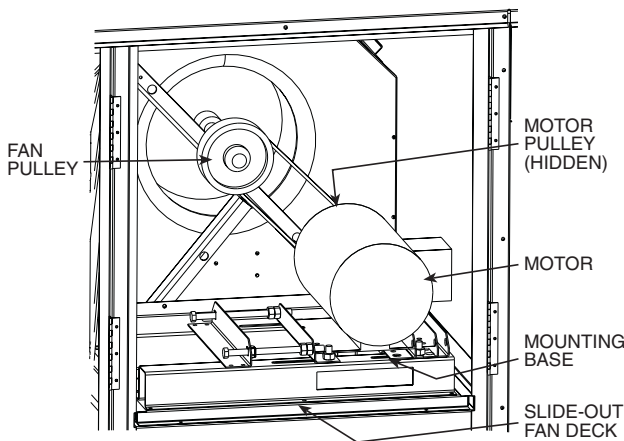

Fig. 22 — Evaporator-Fan Motor Adjustment
3. Remove three no. 10 screws at front of slide-out fan deck. Save screws. See Fig. 22.
Evaporator Fan Performance Adjustment (Fig. 22 and 23) — Fan motor pulleys are factory set for speed shown in Table 1.
4. Move motor mounting plate to adjust to proper belt tension. See Table 23. Motor adjuster bolts may be used to tighten belts. See Fig. 22.